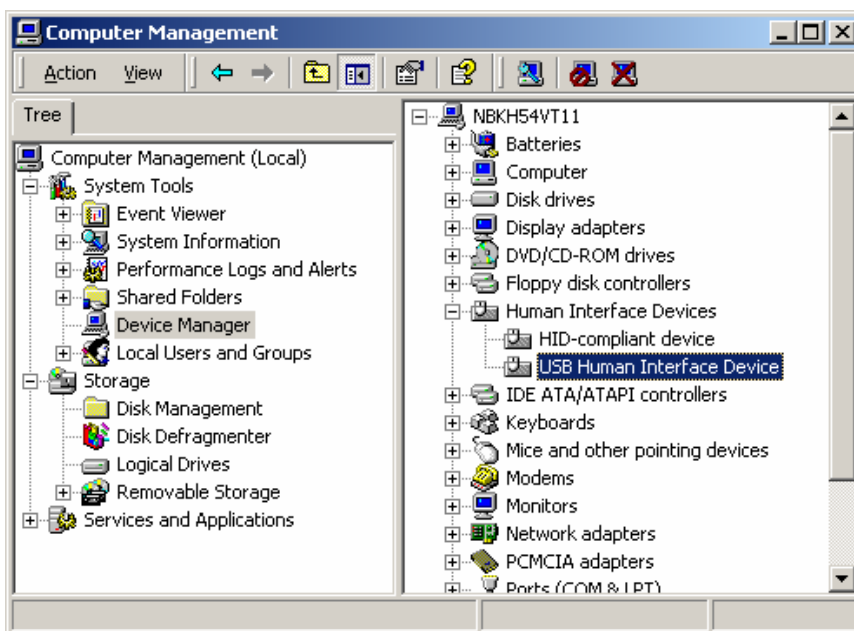

FIGURE 17. SCREEN SHOT OF THE COMPUTER MANAGEMENT FOLDER
2. Select the Device Manager and the Human Interface Devices folder will leads to the window in Figure 17.